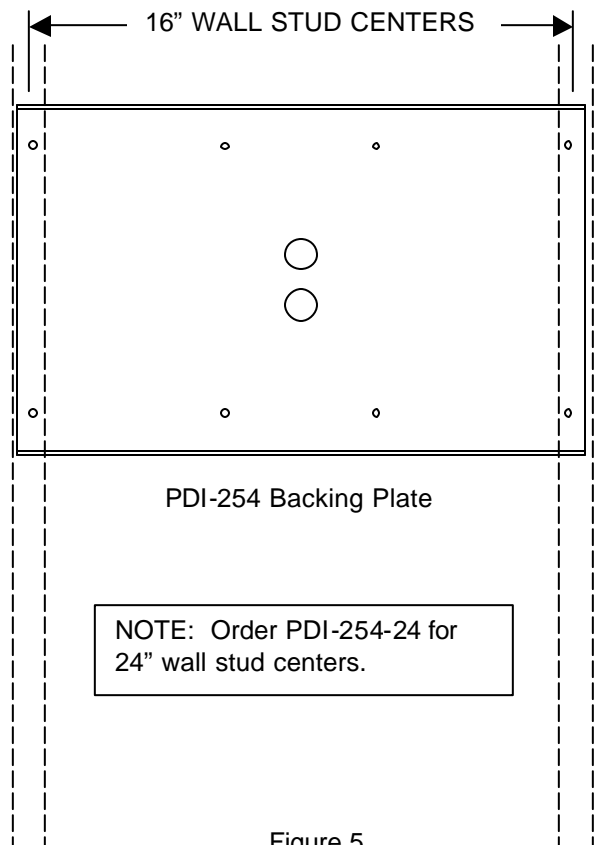

Figure 5.
- FABRICATED BACKING PLATE** – A fabricated plate is used that holds welded-on or pressed-in studs. The studs (1/4"-20UNC-2A) would be located on hole centers that coincide with the wall bracket. The plate is then secured to the wall studs. A prefabricated plate PDI-254 or PDI-254-24 is available from PDI see figure 5. Consult the backing plate instructions packed with each plate for installation details.